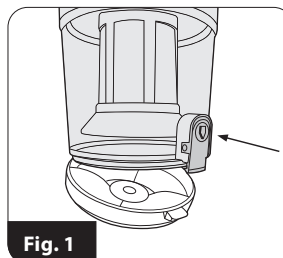

Fig. 1
To empty the dust container ⑤, switch off the vacuum cleaner, disconnect it from the power supply, unhook the suction hose ⑮ by making half a turn and finally press the button ④ and pull out the dust container from the appliance. Place the bin over the rubbish dumpster, release the lid button ⑦ as shown in Fig.1 and dump the dust into the bin. After emptying the bin, close the bottom lid and put the container back into its place in the vacuum cleaner - a characteristic click can be heard when the container locks into the appliance.